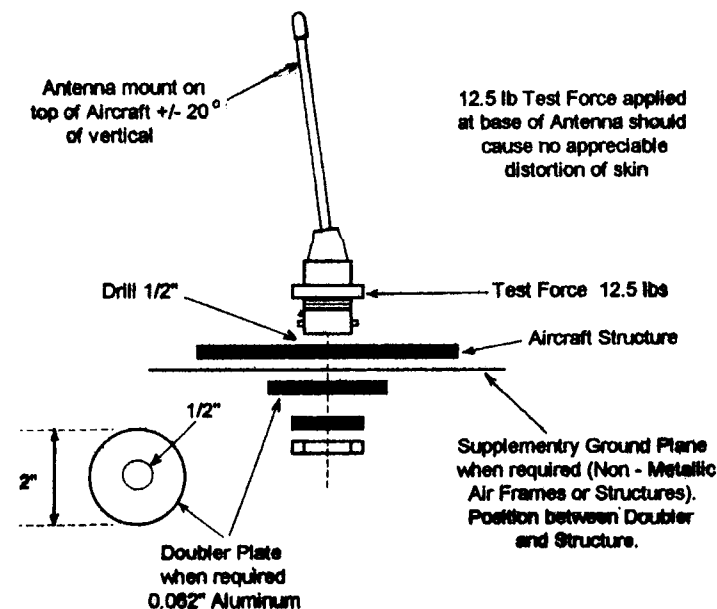

Figure 3. Antenna Installation
After determining the Antenna mounting location per paragraph 2.2.2.1, install the Antenna as shown in Figure 3.
A 12.5 pound force applied in the direction shown in Figure 3 below should not cause an appreciable distortion in the aircraft skin.
4. Assemble of the Antenna as shown in Figure 3. Make sure the rubber washer, which forms a moisture seal between the Antenna base and the aircraft structure, is in place before installing the Antenna. Also make sure the serrated locking washing is in place.